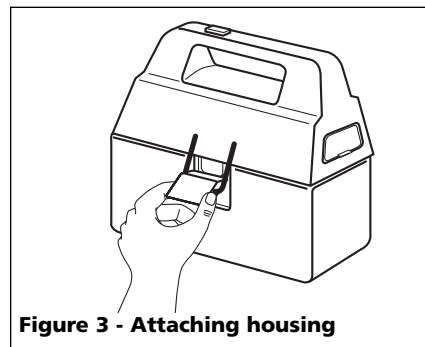

Figure 3 - Attaching housing
3. Place the motor housing on top of the canister and secure with safety clamps on either side of housing (see Figure 3).